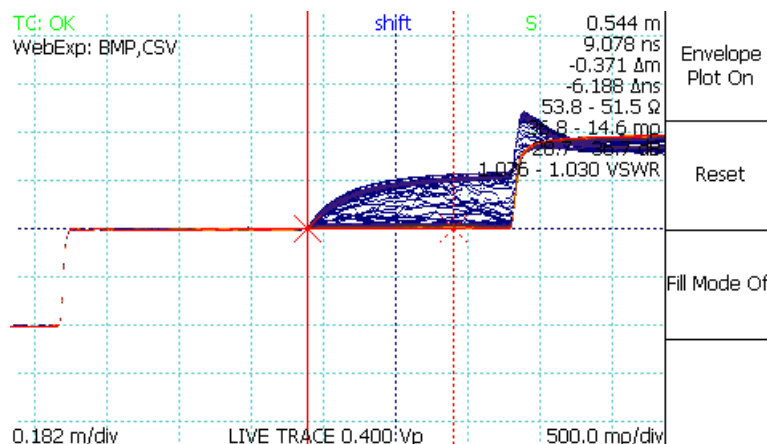
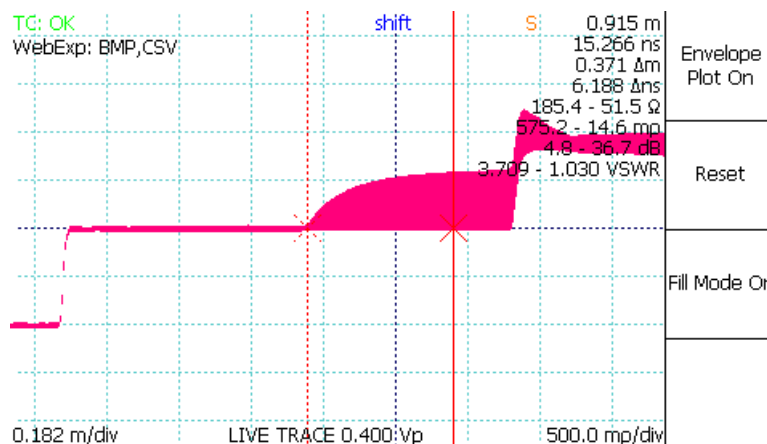

Figure 30: Envelope Plot with Probability Density display.
Figure 31: Envelope Plot with Fill Mode, active cursor showing range of impedance values in fault zone (51.5–185.4 ohms).
*Fill Mode* fills in an area plot between the maximum and minimum impedance values. This is useful to highlight the location of the fault because the fault typically creates an "arrow" that points to the location of the fault as shown in Figure 29. *Probability Density* mode shows the underlying TDR waveforms which can be useful to determine the fault mechanism and likelihood of occurrence as shown in Figure 30. Both modes provide the range of impedance values at cursor, as shown in Figure 31.